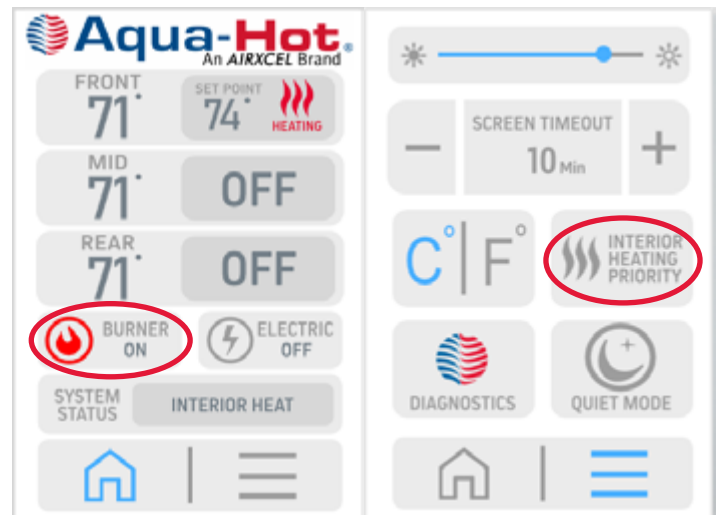

Figure 14
3. At the LCD screen, turn the burner on, and tap to activate “interior heat priority”. (Figure 14)
4. On the LCD screen, set the floor zone temperature to 86° and turn the zone on. (Figure 14)